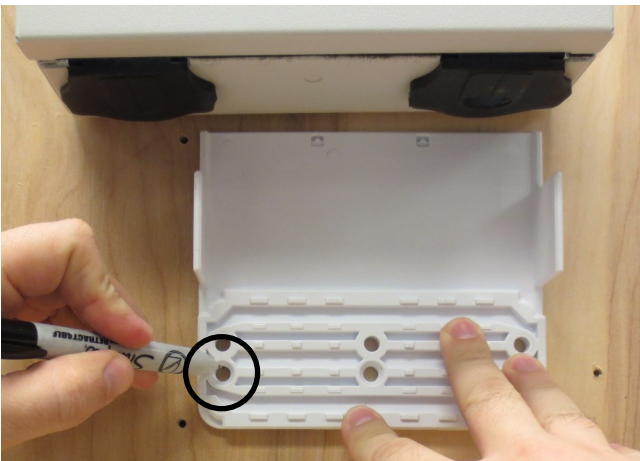

Fig. 2
2. Place and align the manifold cover above or below intended port and mark the mounting location by using the chamfered holes as shown in Figure 2.
**Note: It is recommended to leave an 1/8" gap between the manifold cover and fiber box when locating the mounting holes to prevent interference between cover and rubber grommet, also shown in Figure 2**